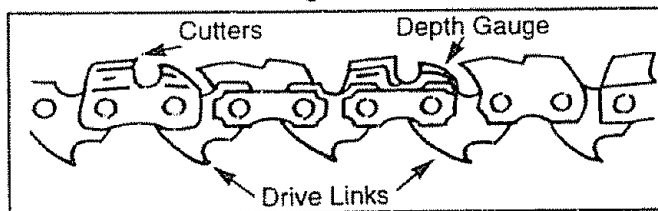

Figure 47
- Carefully remove new chain from package. Hold chain with the drive links as shown in Figure 47.
- Fit chain drive links into top of guide bar. Figure 47.